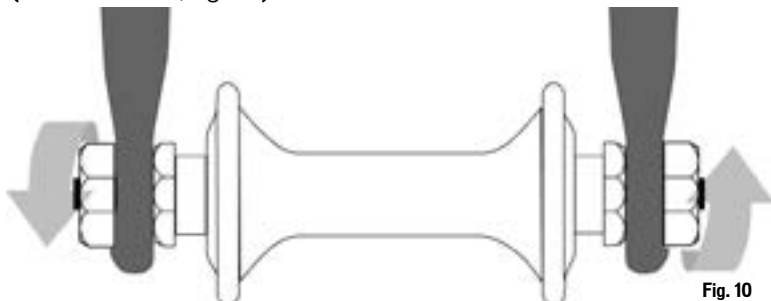

Fig. 10
- Hex nuts or hex key bolts which are threaded on to or into the hub axle (bolt-on wheel, fig. 10)